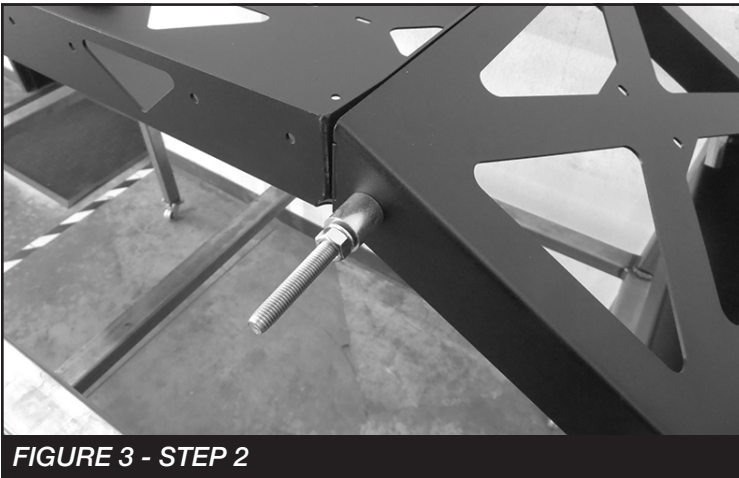

FIGURE 3 - STEP 2
2. Install FT98100-7-101 (Sleeve 1.063" long) onto the bolt thread along with a lock washer nut. Torque to 56 ft-lbs. **SEE FIGURE 3**